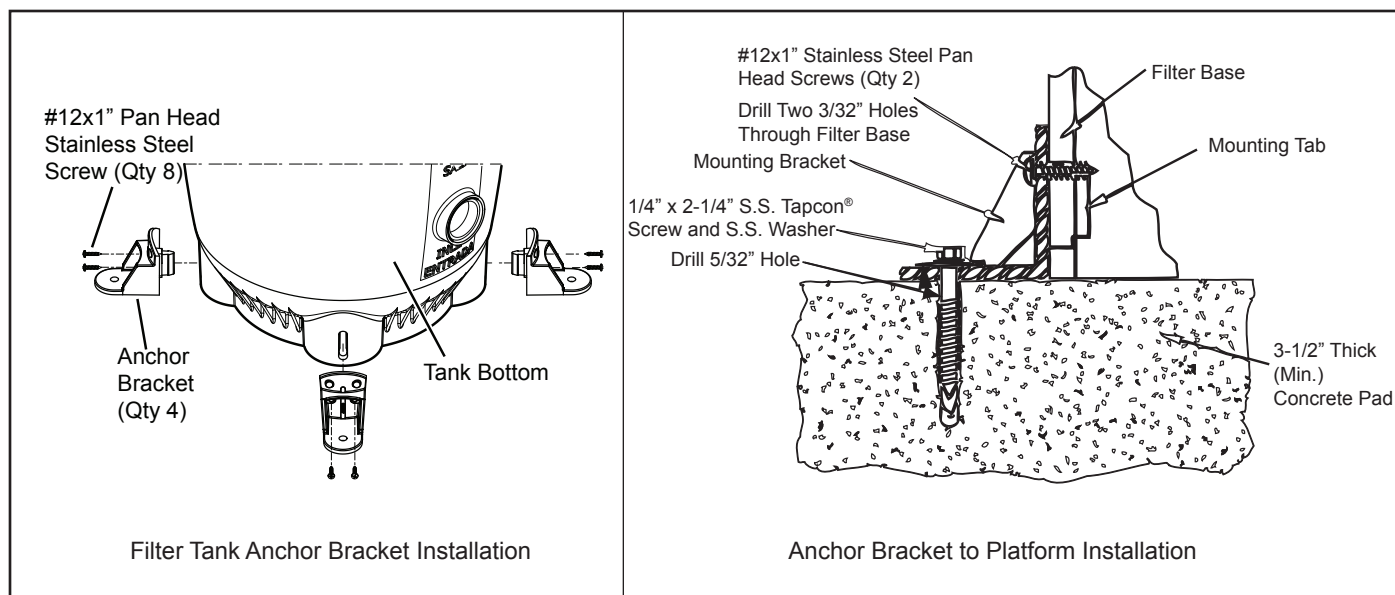

Figure 3. Anchor Filter to Equipment Pad
Install the Tapcon screws and washers through each of the four (4) anchor brackets to secure the filter to the equipment pad. See Figure 3. **Do not over-torque the screws.**